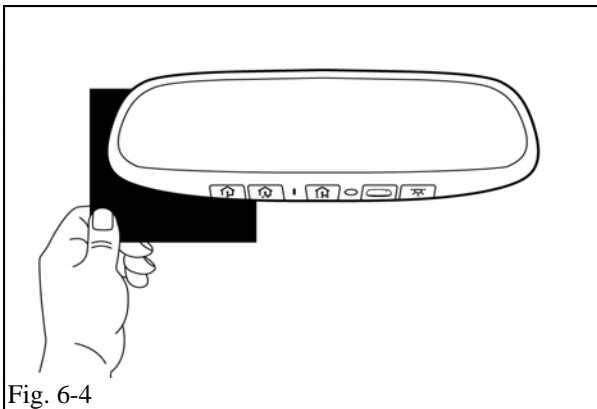

Fig. 6-4
- (3) Cover the forward-looking light sensor located below the wire harness connection of the back of the mirror (a dark cloth or towel will work). (Fig. 6-4)
- (4) In a few seconds, mirror will begin to darken (time may vary with ambient light level).
- (5) Remove the cover from the forward photocell and the mirror will begin to clear.
- (6) Turn ignition key to OFF position.